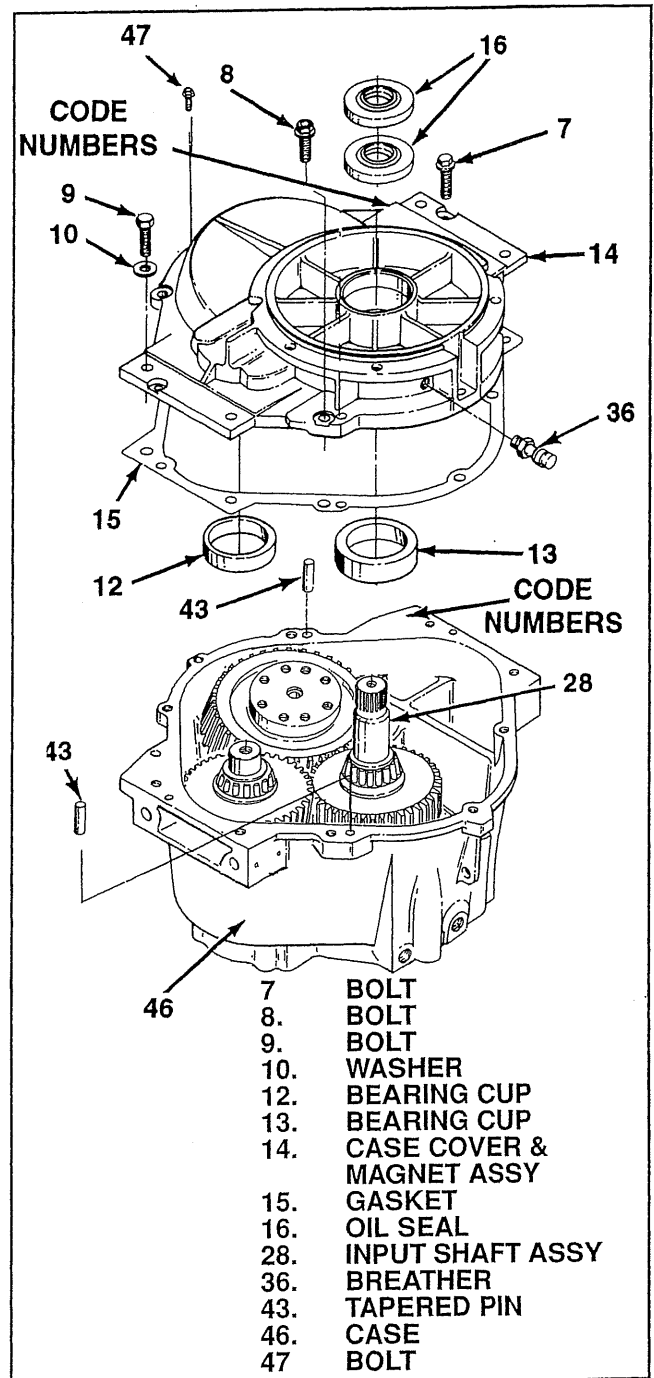
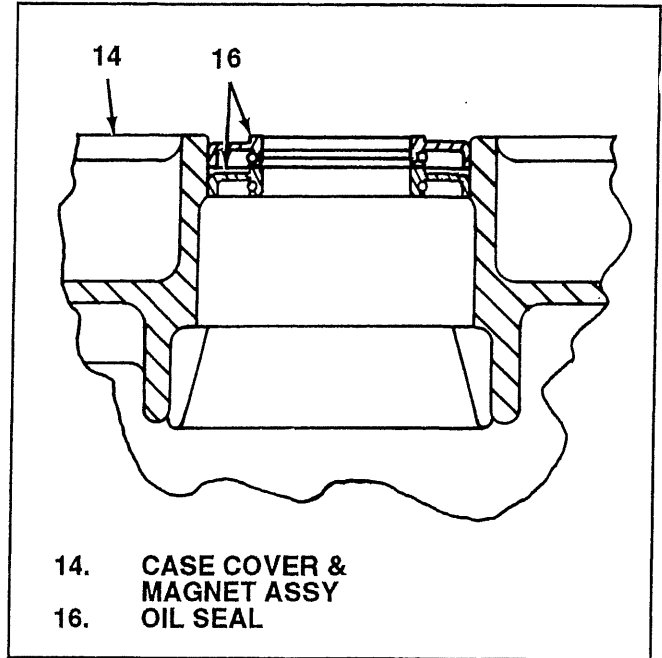
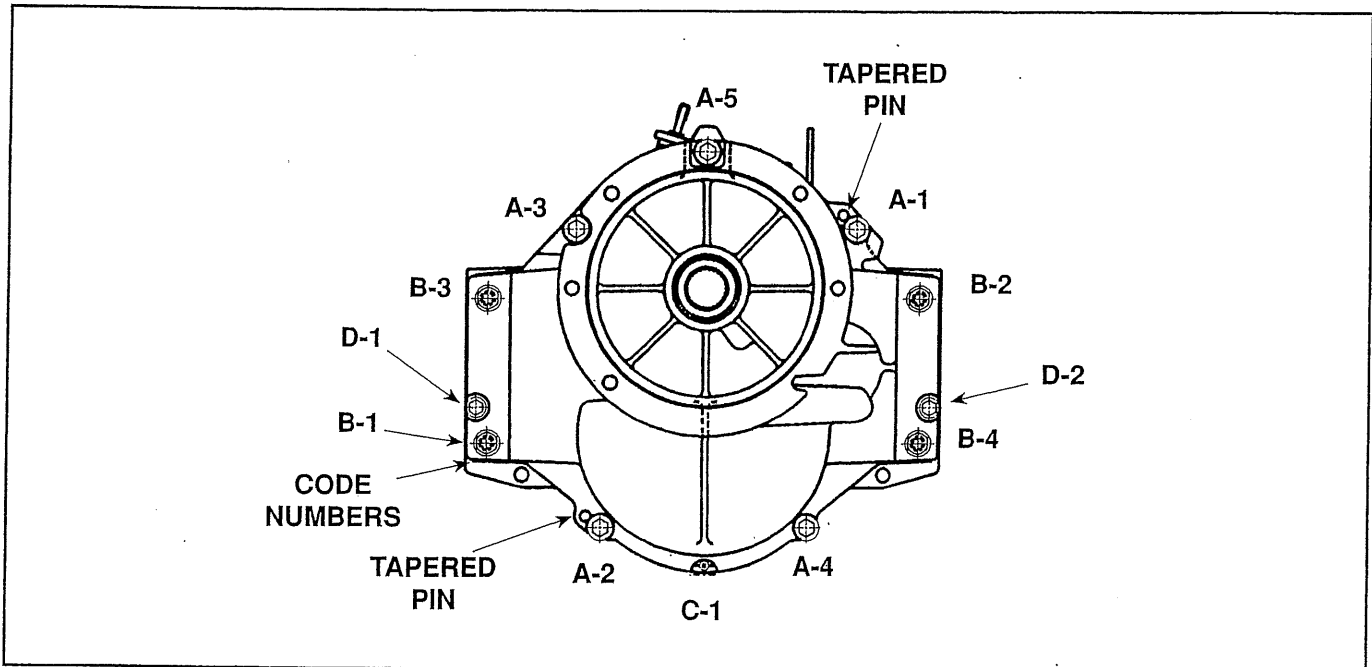
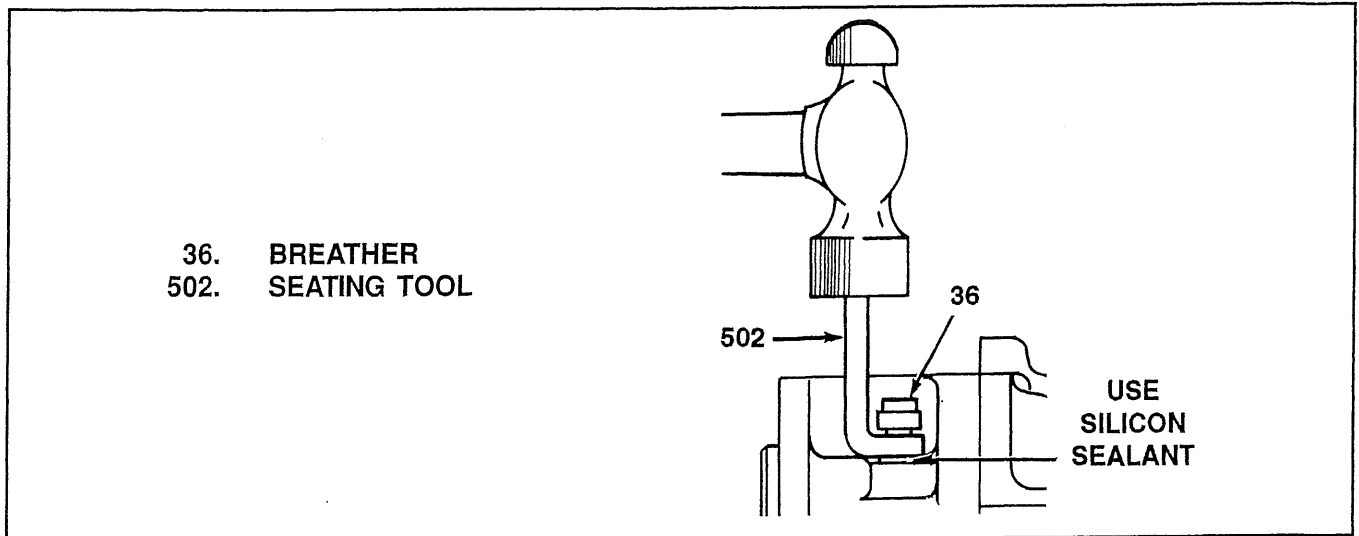

Figure 5-18. Case Cover and Bearing Cup Assembly
Figure 5-19. Input Shaft Oil Seals
Figure 5-20. Torque Sequence
Figure 5-25. Breather Installation
**5-20. ASSEMBLY AND INSTALLATION OF CASE COVER ASSEMBLY.** Assemble as follows (see figure 5-18):
**NOTE:** Case cover and magnet assembly (14) and case (46) are a matched set as specified in paragraph 4-15. Check the code numbers as shown in figure 5-18 to make sure a matched set is being assembled. A mismatched case (46) and case cover and magnet assembly (14) may result in severe transmission damage.
1. If removed, press in new bearing cups (12 and/or 13) to bottom in case cover and magnet assembly (14).
2. Position two new oil seals (16) as shown in figure 5-19 and press into case cover and magnet assembly (14) so that outside face of outside oil seal is flush with outside face of cover. Fill cavity between oil seals with grease.
3. Position transmission assembly with pump end down and position gasket (15) on face of case (46). A light coating of petroleum jelly may be used to hold gasket in place.
4. Position case cover and magnet assembly (14) on gasket (15) on case (46). Align holes and install tapered pins (43) using finger pressure only at this time.
6. Lightly tap tapered pins (43) to position cover and hand tighten bolts to snug gasket (15).
7. Firmly tap tapered pins (43) to seat them.
8. Tighten bolts in sequence shown in figure 5-20 diagram to the following final torque:
A. bolt (8) 24-34 lb-ft (33-46 Nm)
B. bolt (9) 40-50 lb-ft (54-68 Nm)
6. If breather (36, figure 5-18) was replaced install new breather with silicone sealant and seat with seating tool T-5006 as shown in figure 5-25.